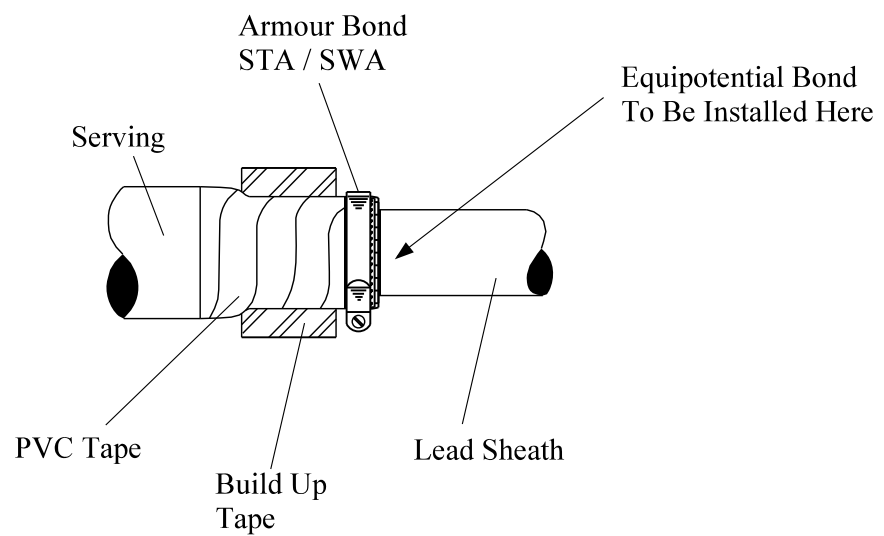

Fig 4.
Where the cable has been cut becomes the reference mark for the joint, wearing the red Mappa gloves the oversheath is cleaned down using the approved degreaser for a distance of 1.5m. Using the reference line and a Chinagraph pencil mark where the oversheath termination will be, after the aluminium sheath, has been exposed during the early stages of making a straight joint and before the aluminium sheath, has been cut to the required length, as dictated by the relevant Jointing Procedure, a clean temporary continuity connector shall be applied, see Figure 4 of GR3D 6.11.2 and properly tightened to the cleaned aluminium sheath, at a position where it will not interfere with the jointing procedure. With an H Cable/HSL/3 core XLPE cable this will be in the location of where the water blocking shall be applied. The application and removal of the earth continuity bond requires the use of class 1 electrical gloves as detailed in the matrix of GR 3. **The bond shall not be removed until the permanent earth conductor has been re-established across the joint**, or the normal earth path is restored by the joint sleeve, or by a permanent armour bond in the case of cables where the armour is the only continuity conductor.
- 1.7 Remove the PVC bedding up to the binding wire applied in 1.6, by cutting with a hook knife along the side of the cable, which will allow the bedding to be removed. See Fig 4.